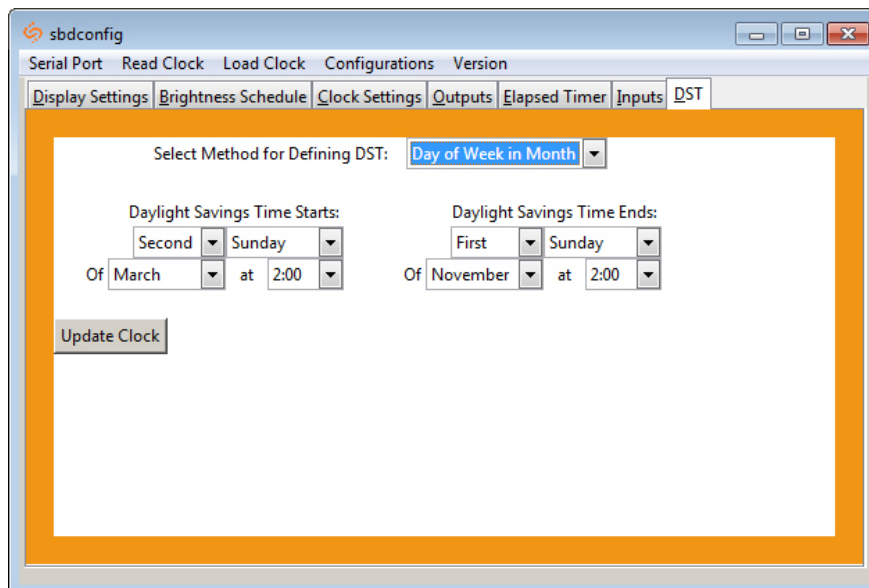

Fig. 5
- **Day of Week in Month:** When this option is selected, Daylight Saving Time can be chosen based on what week in what month and what time it begins and ends. For example, Daylight Saving Time can begin on the second Sunday in March at 2AM and ends on the first Sunday in November at 2AM. (Fig. 5)